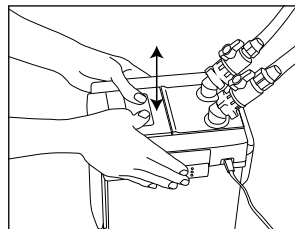

fig 21
- Place your fingers and hands as in figure 21, in a position that allows you to press the START BUTTON located on the top side of the filter head.